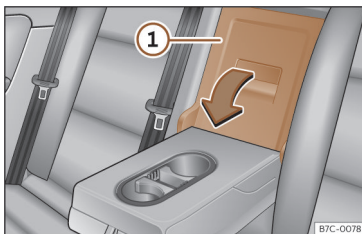

Fig. 115 In the rear seat backrest: opening the trapdoor.
- Pull the release lever in the direction of the arrow and push the tailboard cover >>> **Fig. 115** ① down and forwards.